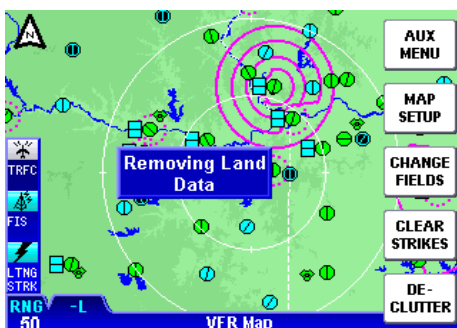

Figure 1-52
2. Press the **DECLUTTER** Softkey. On the first press the land data will be removed from the display as seen in Figure 1-52. Notice roads, railways, city icons, etc. are no longer displayed. Note also that a **-L** is now shown in the bottom left of the screen indicating the display is minus land data.